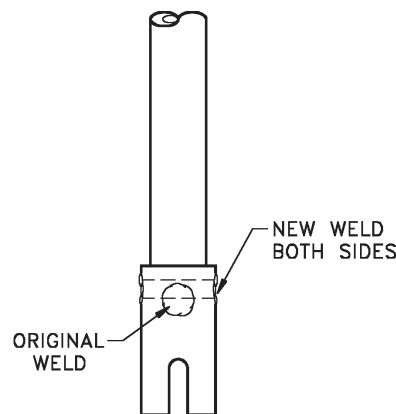

FIGURE 3
- A. Rosette weld two places, making sure that the weld penetrates the inner shaft before filling the hole. (See Figure 3 below.)